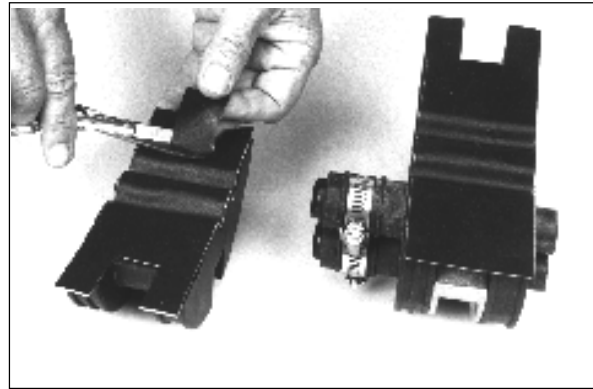

FIGURE 15 - SQUARE CUT BOLT HOLES
- 6.05 Square cut the tape away from the bolt holes. (area just beyond the metal insert.) (Figure 15)